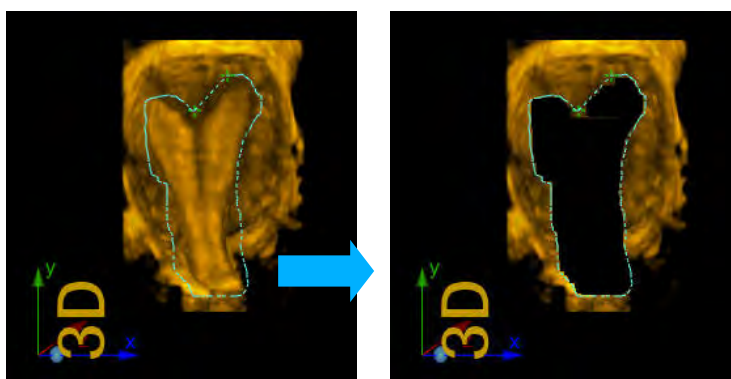

Figure 254: Cut Inside
- a) **Inside:** To cut the inside of the selected area, click on **Set** to release the cursor; use the trackball to move the cursor over **Inside** and click on **Set** to select it. Now move the cursor to the 4D image and drag the area to be cut according to the trace measurement, as shown in Figure 254 on the left. Click on **Set** and the selected area is cut out, as shown in Figure 254 on the right.